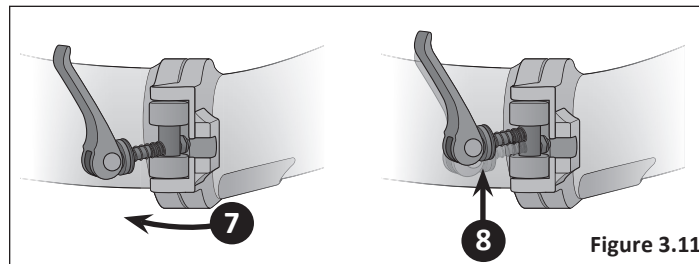

Figure 3.11
- 7 Open the frame quick-release lever and rotate the quick-release lever out of the slot. **Figure 3.11**